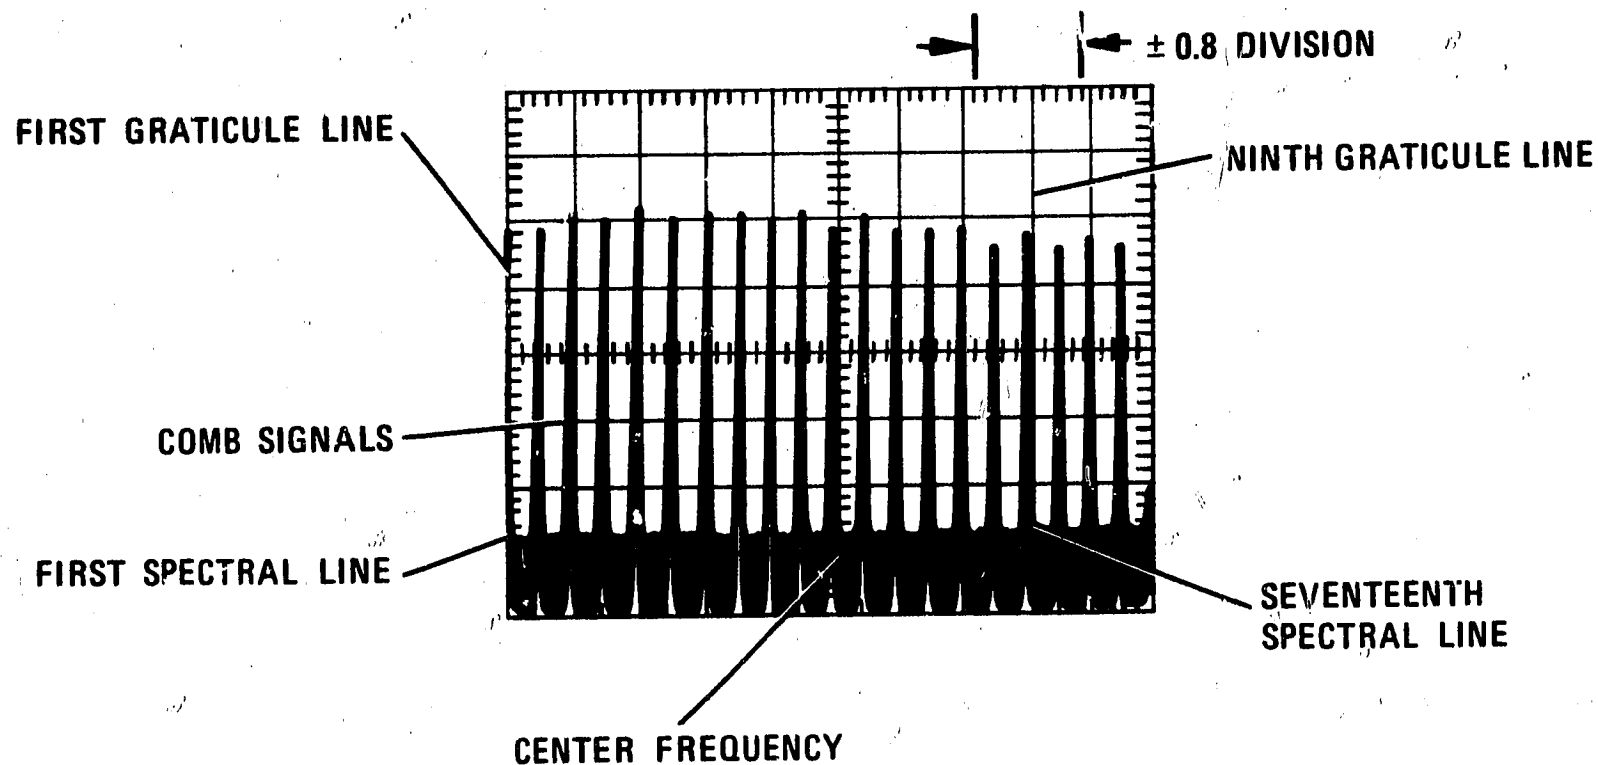

Figure 4-3. Frequency Display Span Accuracy Measurement
4. Set spectrum analyzer **FREQ SPAN/DIV** to 20 MHz, **RESOLUTION BW** to **OPTIMUM**, and comb generator to 10 MHz comb frequency. Adjust spectrum analyzer **TUNING** control to position one spectral line (from comb generator) at the first graticule line (far left) of display. Measure error between seventeenth spectral line and ninth graticule line. Error should be 0.8 division, maximum. (See Figure 4-3).